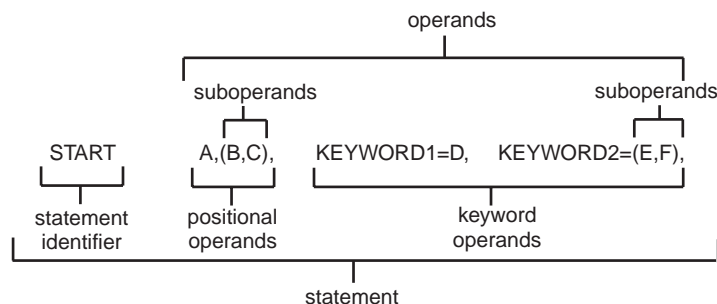
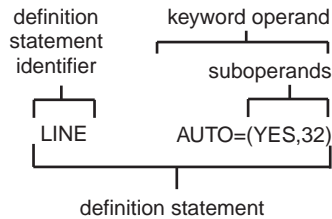
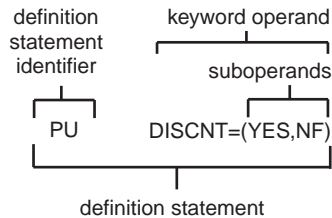

Figure 7. Example of a Language Statement
Figure 8. Example of an NCP Definition Statement
Figure 9. Example of a VTAM Definition Statement
definition statement. (1) In VTAM, the statement that describes an element of the network. (2) In NCP, a type of instruction that defines a resource to the NCP. (3) See also *macroinstruction*. (4) See Figure 7, Figure 8 on page 278, and Figure 9 on page 278.